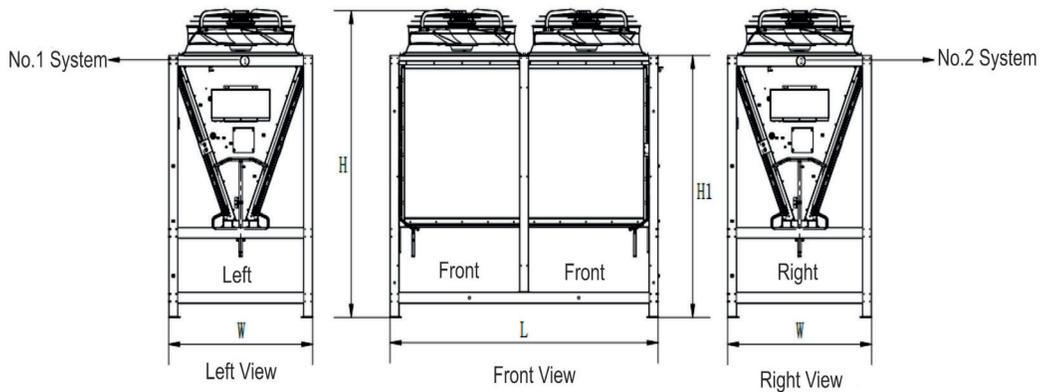

Figure 1-2 LVC Condenser Structure
The condenser structure is shown in Figure 1-2. The mechanical parameters of each model are listed in Table 1-2.
- Figure 1-2 shows the serial number labels to determine system 1 and 2. There will be stickers with serial numbers pasted on LVC condensers to identify each system.